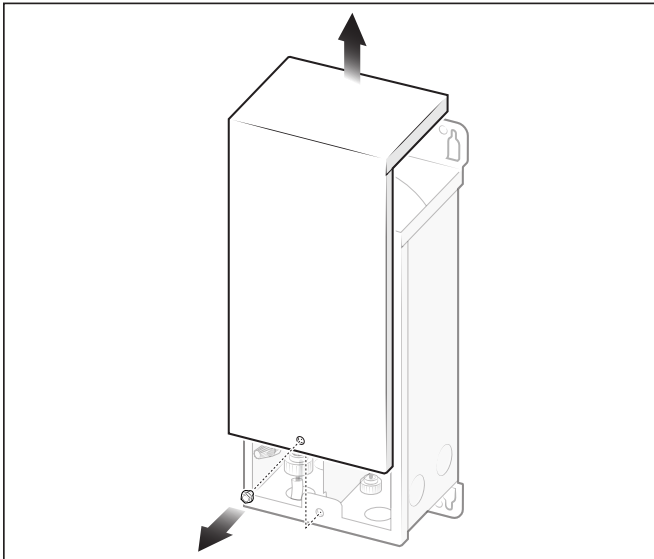

Figure 1. Remove Light Controller Lid
2. Remove Light Controller lid screw, see Figure 1.
3. Pull Light Controller lid up and remove from DCT, see Figure 1.